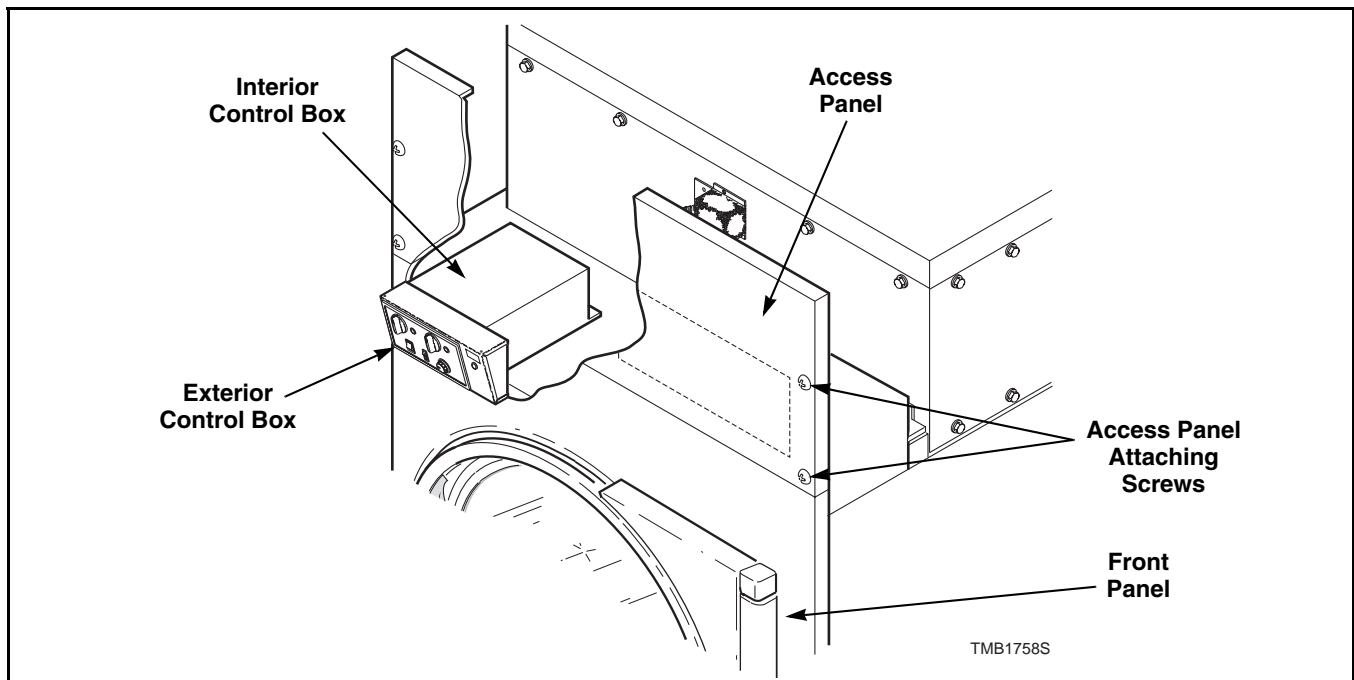

Figure 1
- a. Remove four screws holding access panel to cabinet. Refer to *Figure 1*.
- b. Lift access panel off top edge of front panel and pull panel forward. Refer to *Figure 1*.